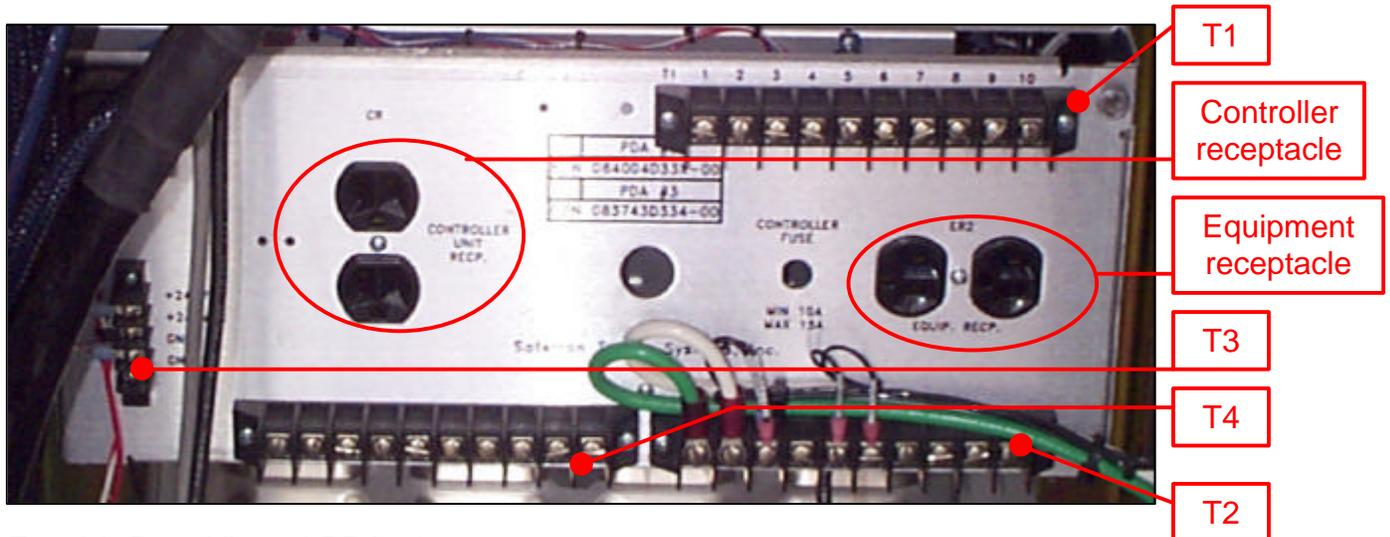

Fig. 64: Rear View of PDA #3.
- 15) If only two power wires are available, connect one to L1 and the other to L3 of the CMS main disconnect. Then use jumpers to connect L1/L2 and L3/L4 (As shown in figure 64).